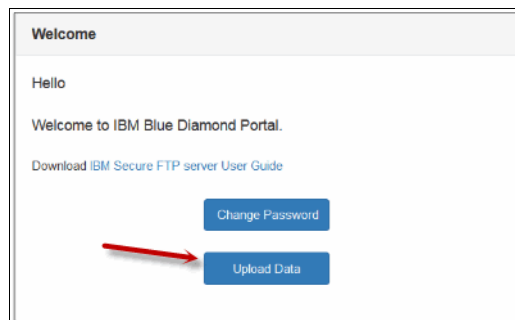

Figure 8-21 Blue Diamond Data Upload page
3. When you are logged in, click the **Upload Data** button, as shown in Figure 8-21.